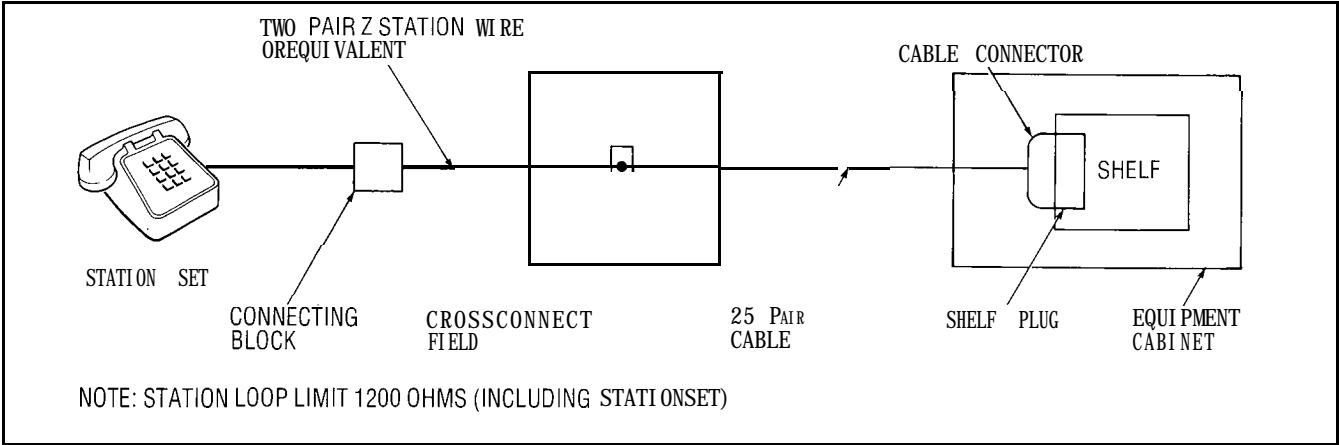

Fig. 6-1 Station Cabling and Limits
6.08 Telephone set and trunk cabling terminates on the building cross-connect terminal in the normal manner. The cabling requirements and limits for stations and consoles are shown in Fig. 6-1 and 6-2.